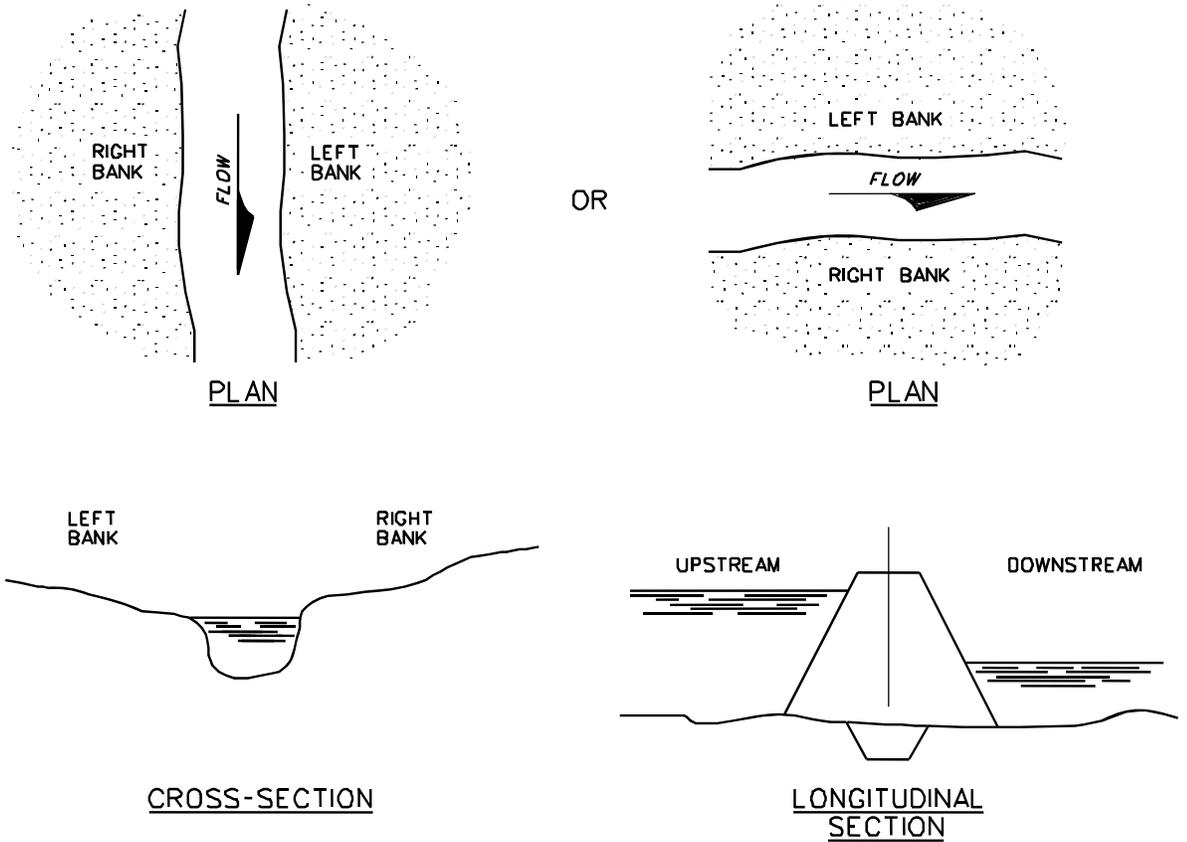

Figure 4-43
4.18.4 Riverbank orientation is always determined as being right bank or left bank by facing in direction of the water flow (downstream) see figure 4-43.